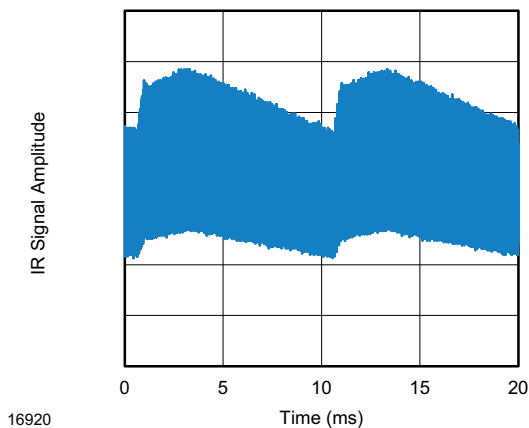

Fig. 14 - IR Disturbance from Fluorescent Lamp With Low Modulation
- Strongly or weakly modulated patterns from fluorescent lamps with electronic ballasts (see Fig. 14 or Fig. 15)